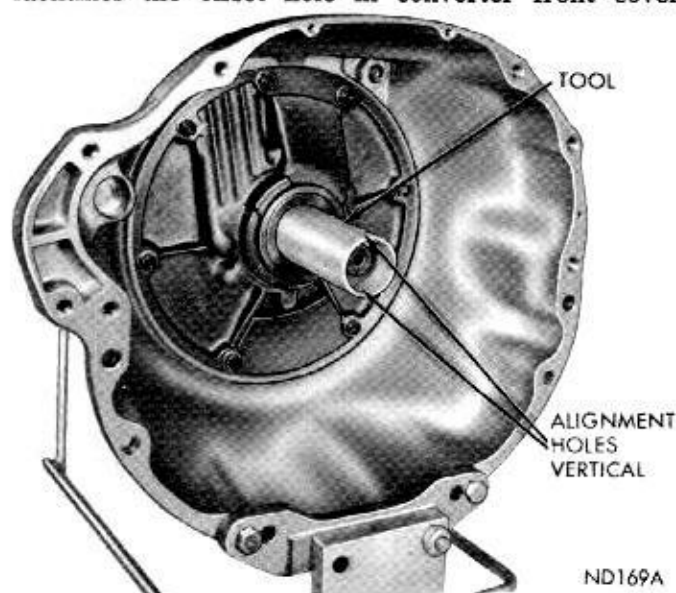

Fig. 90—Aligning Pump Rotors
(1) Rotate pump rotors with Tool C-3756 (A-904) or Tool C-3881 (A-727) until the two small holes in handle are vertical (Fig. 90).
(2) Carefully slide converter assembly over input shaft and reaction shaft. Make sure converter impeller shaft slots are also vertical and fully engage pump inner rotor lugs.